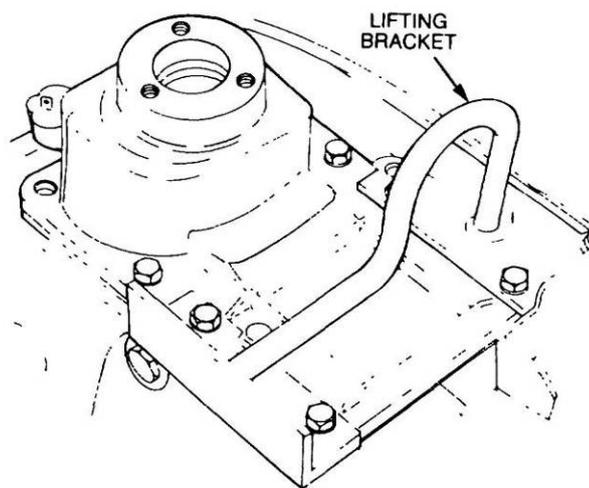

Figure 62 Transmission Lifting Bracket
- a.** Secure the special lifting bracket RO1001 to the transmission with the bolts that normally secure the transfer case selector lever (Figure 62).